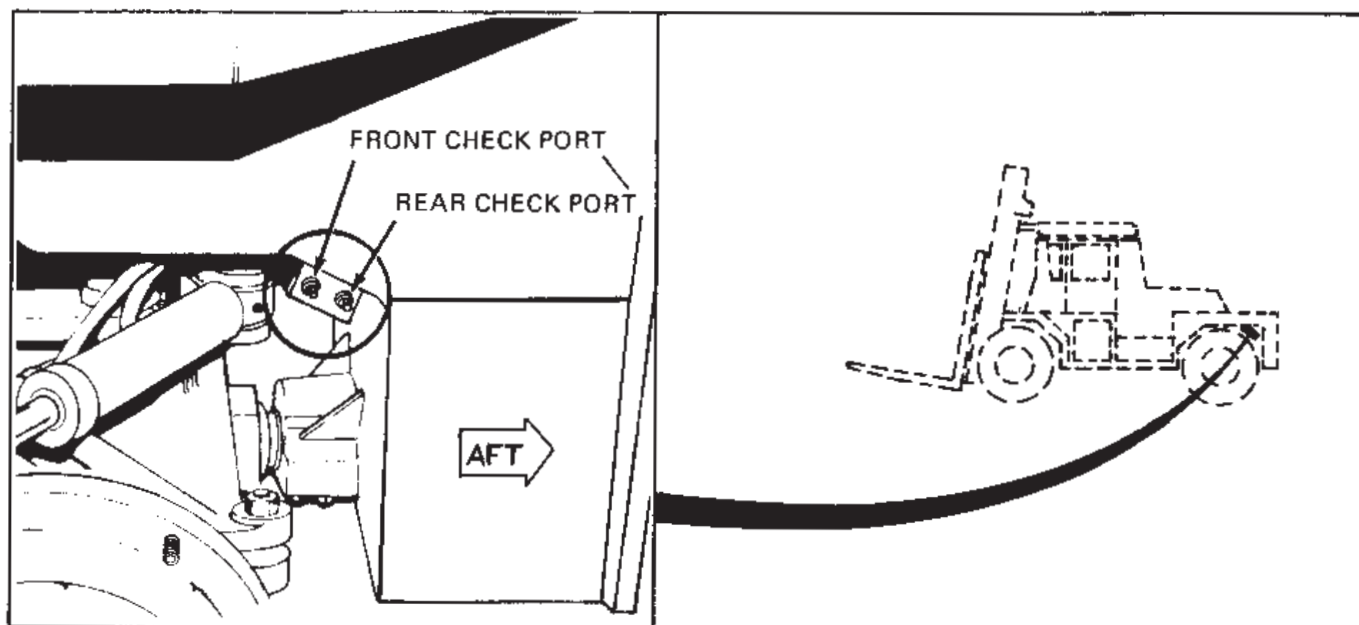

Figure A-1. Location of Pressure Check Ports
PRESSURE PORT LOCATIONS (Figure A-1).
a. Remove the plug from the front check port and install a pressure gauge (see Figure A-1).
a. Remove the plug from the rear check port and install a pressure gauge (see Figure A-1).
- a. Remove the plug from the rear check port and install a pressure gauge (see Figure A-1).